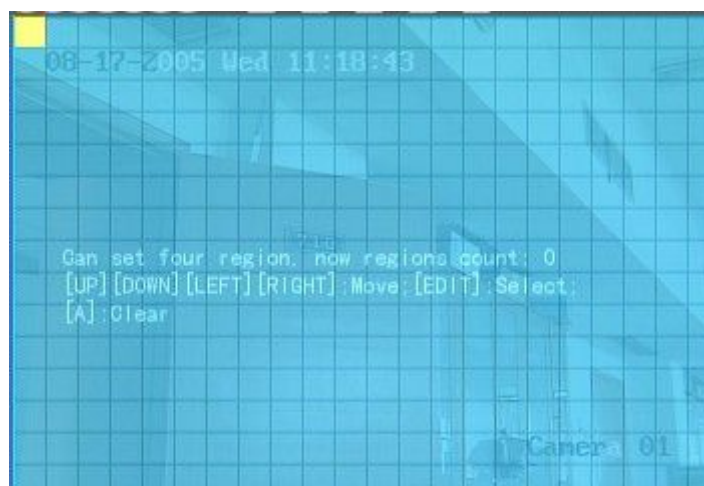

Fig 5.13 Mask area setup
Step 3: Enter into “Advanced settings” enable the check box beside “Privacy Mask”, you can press the **[Enter]** or **[edit]** key to change the flag into “✓”, and activate “Area” button. Move “Active Frame” to “Area” button on the right side of mask check box, press **[ENTER]** key to enter into mask area setup interface shown as fig 5.13